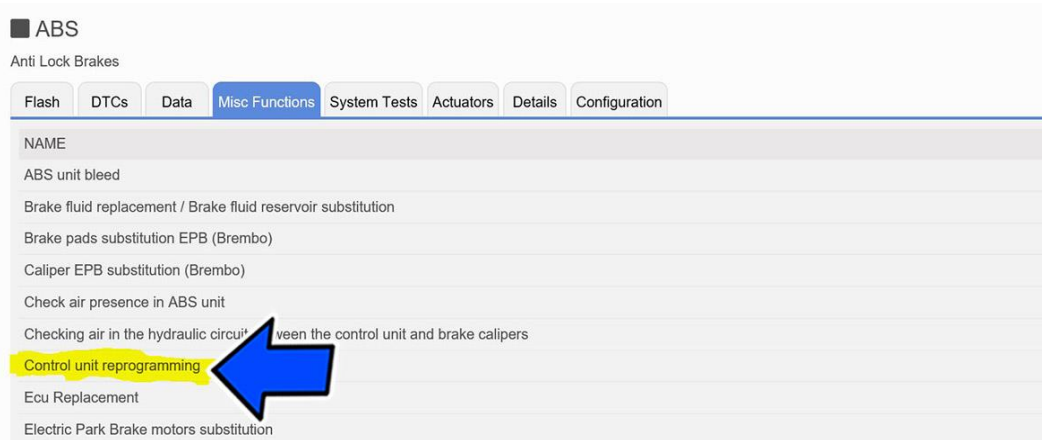

Figure 26 - Control Unit Reprogramming
- 21. From the ABS “Misc. Functions” tab, select and run the “Control Unit Reprogramming” routine (Figure 26).